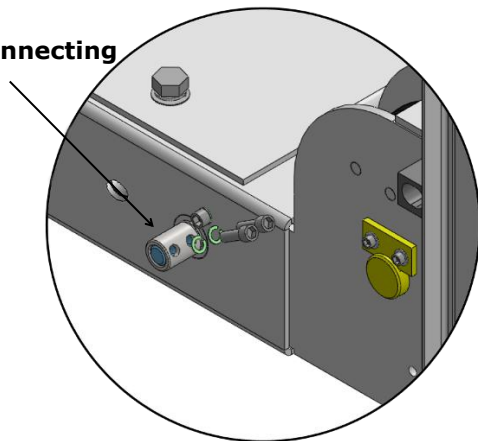

Fig. 24
J. Install connecting bar for safety device and release handle (See Fig. 24)